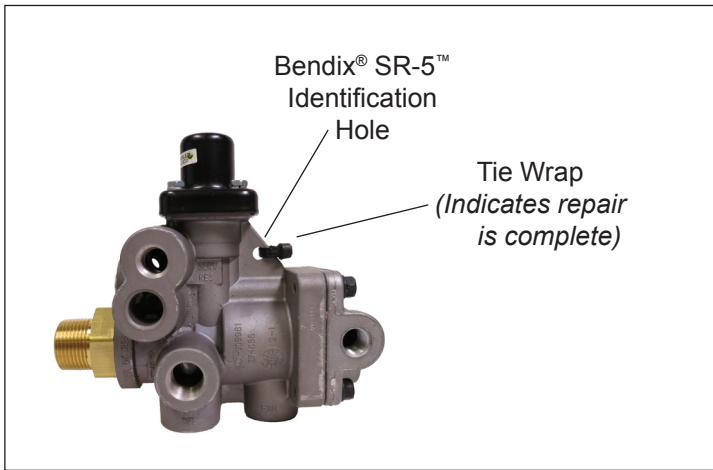

Figure 2 – Tie Wrap Location
6. For identification purposes, secure the green tie wrap (2) through the identification hole located on the valve body. (Refer to Figure 2.)
7. Included in this kit is an SR-5 decal (5) that can be placed on the trailer upon completion of the valve installation. The installation of this decal is not required; however, it may be helpful for quick identification of the trailers that have been serviced per the recall. Space is provided for the technician's name and date of installation.
Note: Bendix SR-5 valves with a green or black tie wrap through the identification hole in the body have already been repaired. No further servicing is required. (Refer to Figure 2.)